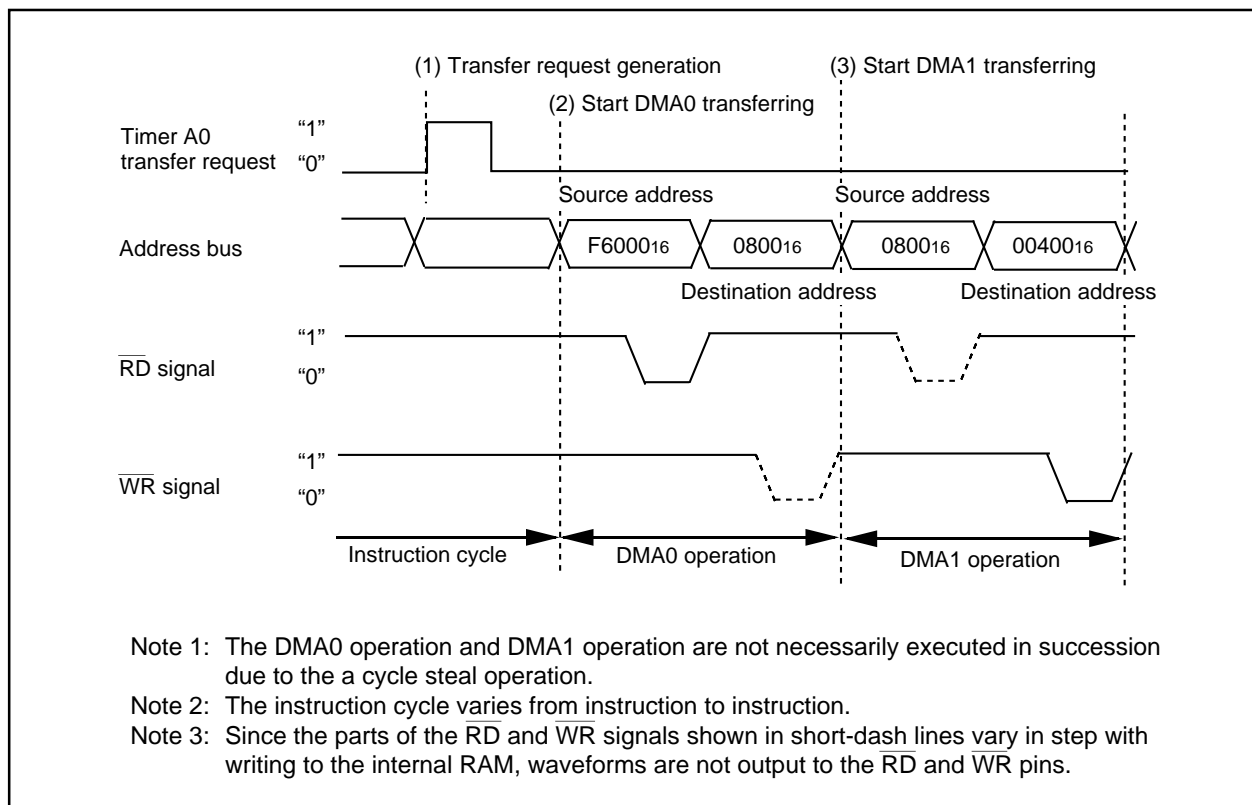
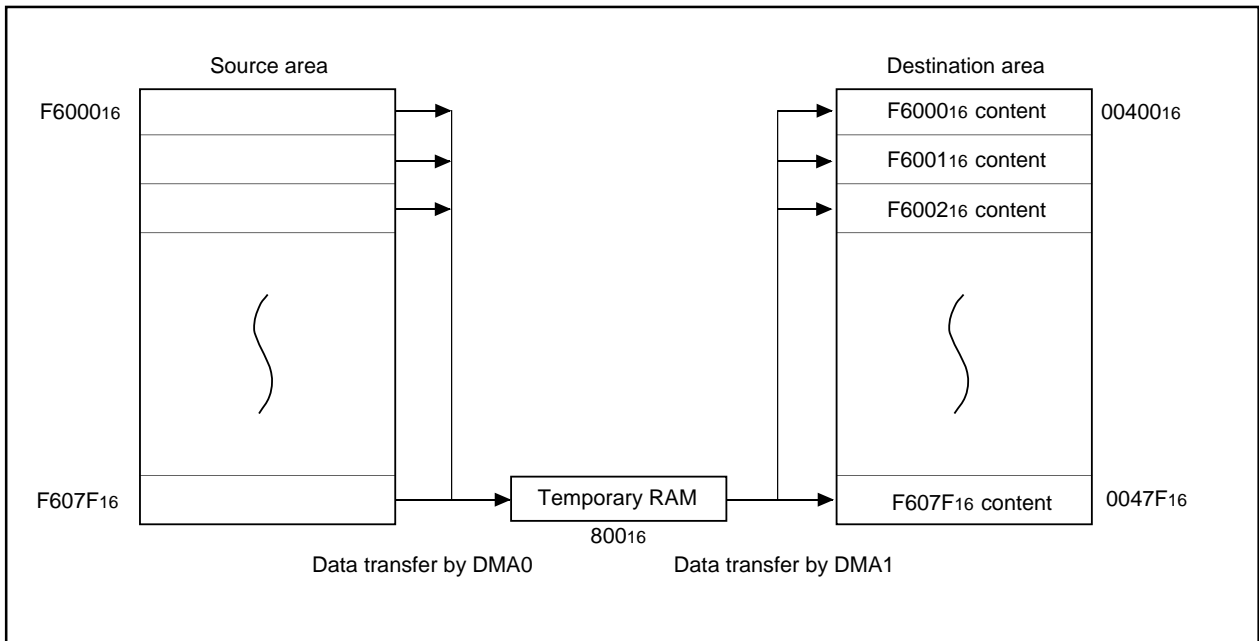
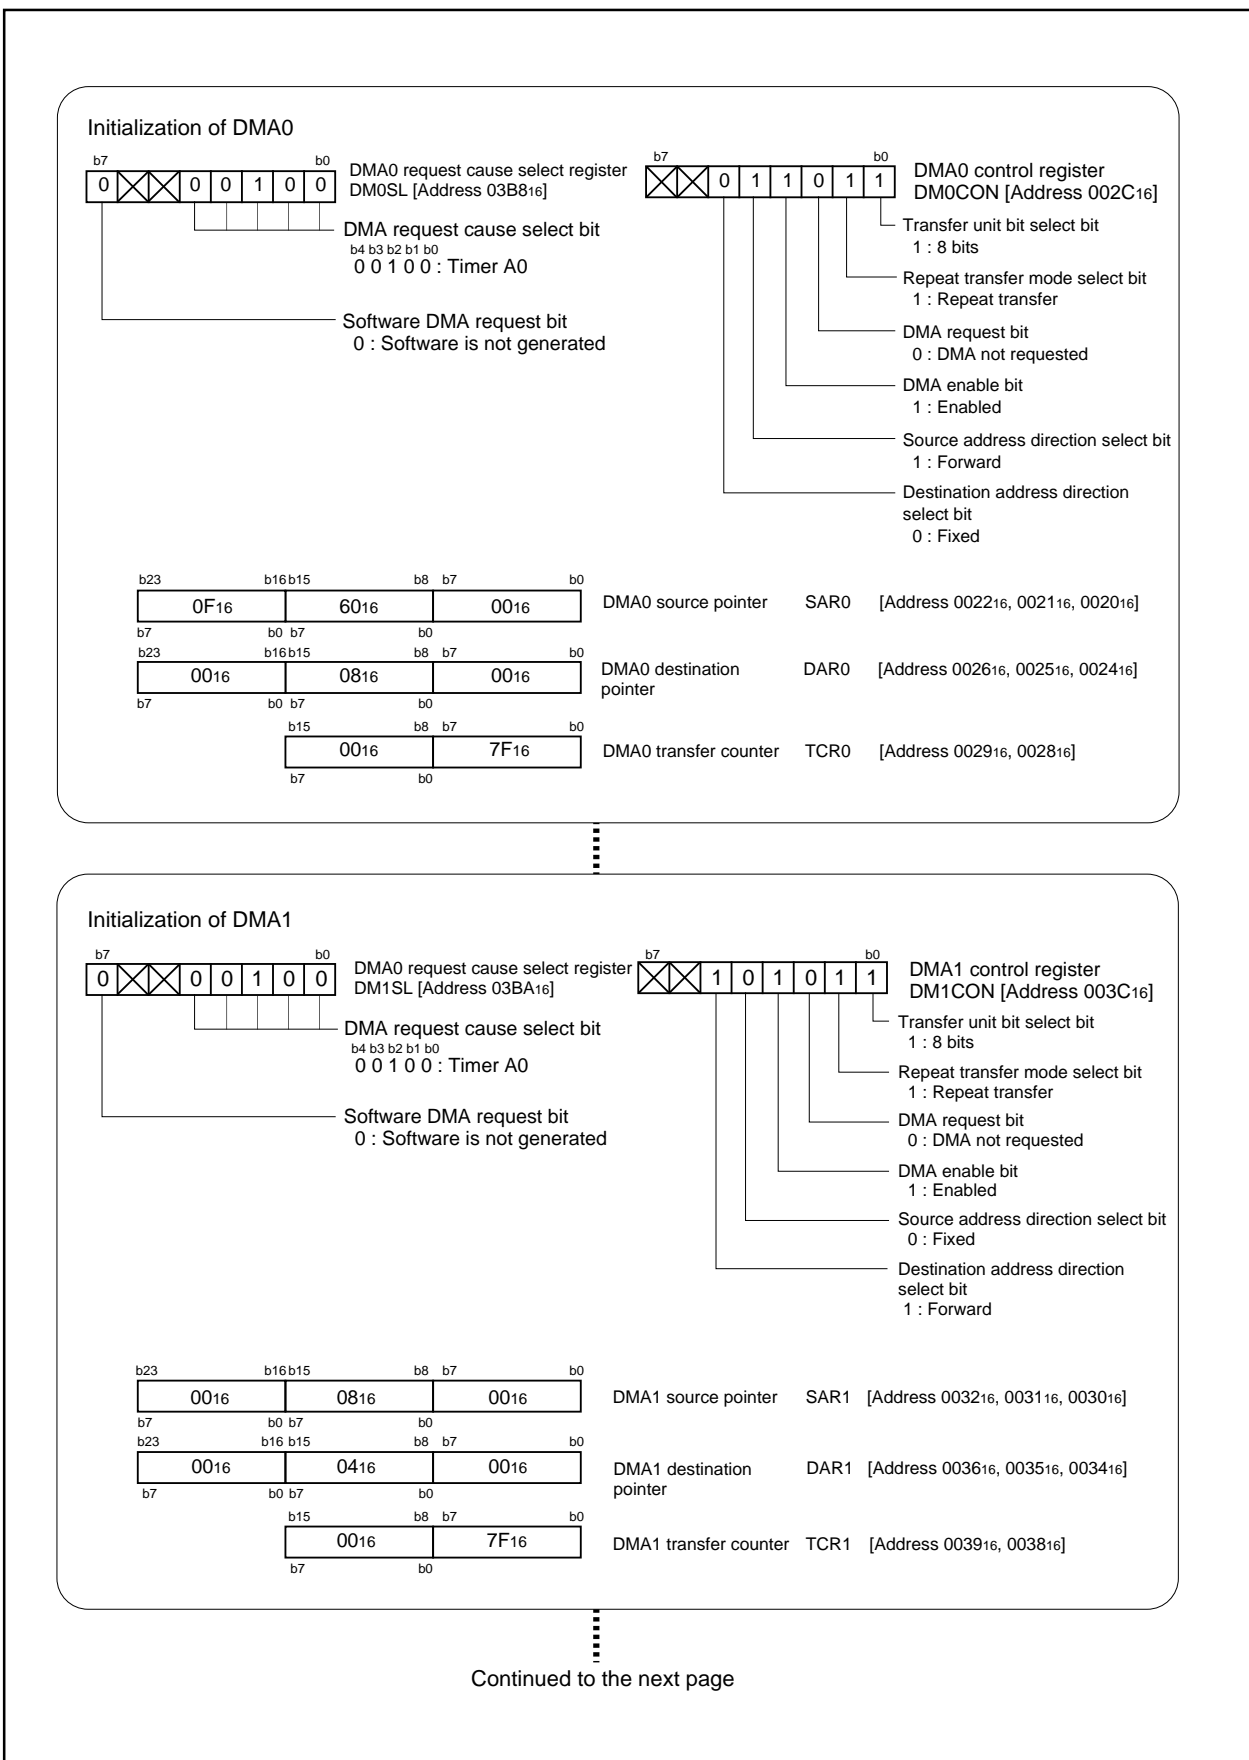

Figure 3.6.1. Operation timing of memory to memory DMA transfer
Figure 3.6.2. Block diagram of memory to memory DMA transfer
Figure 3.6.3. Set-up procedure of memory to memory DMA transfer (1)
**Overview** The following are steps for changing both source address and destination address to transfer data from memory to another. The DMA transfer utilizes the workings that assign a higher priority to the DMA0 transfer if transfer requests simultaneously occur in two DMA channels. Figure 3.6.1 shows the operation timing, Figure 3.6.2 shows the block diagram, and Figures 3.6.3 and 3.6.4 show the set-up procedure.